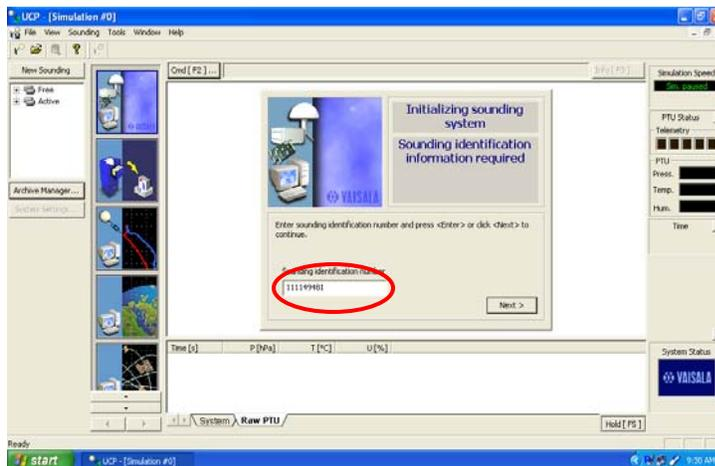

Figure 6
- 8) On the next screen (Figure 6), enter the sounding number using our usual codes: **XXMMDDYYn**, where XX is 21 for Manus and 22 for Nauru. Click on “Next.”